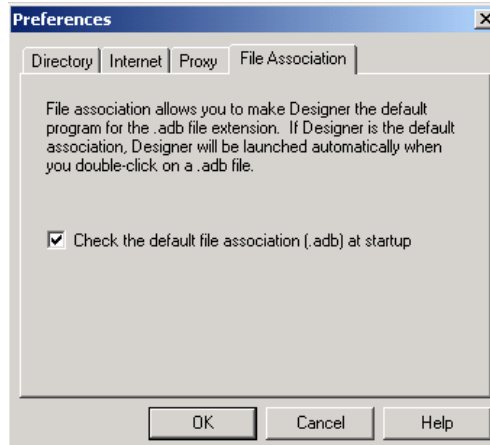

Figure 2-49. File Association Tab
2. Click **File Association**, as shown in Figure 2-49.